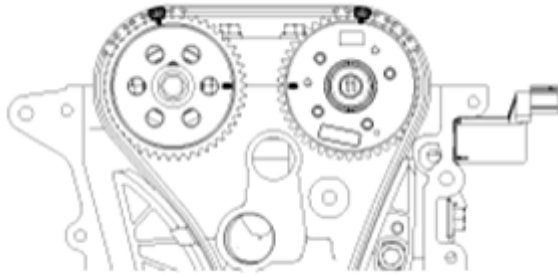

Fig. 8: Checking That Marks Of Camshaft Timing Sprockets Are In Straight Line On Cylinder Head Surface
2. Check that the marks of the camshaft timing sprockets are in straight line on the cylinder head surface as shown in **Fig. 8**. If not, turn the crankshaft one revolution (360°).